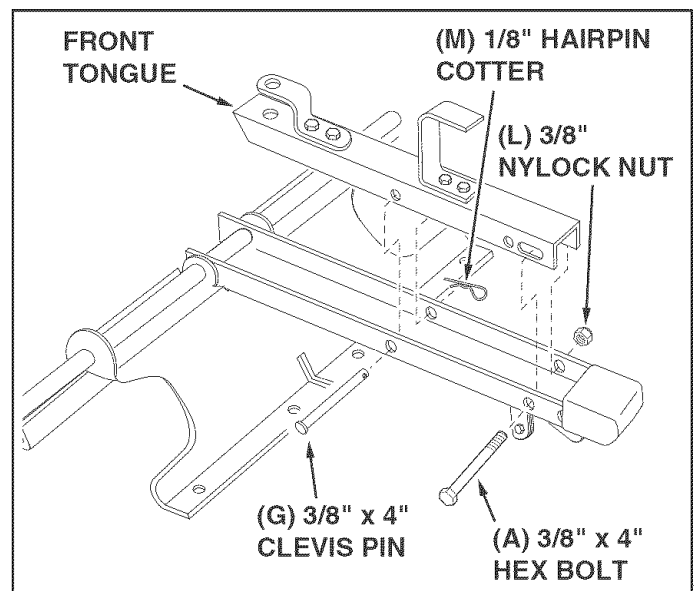

FIGURE 5
STEP 5: (SEE FIGURE 5)
- Place the front tongue inside the rear tongue as shown in figure 5. Fasten the tongues together using a 3/8" x 4" hex bolt (A) and a 3/8" nylock nut (L). **Tighten,** leaving the nut just loose enough that the tongues can pivot freely.
- Insert the 3/8" x 4" clevis pin (G) through the tongues and secure with a 1/8" hairpin cotter (M).
- To convert the cart for push operation, remove the 4" long clevis pin and hairpin cotter which secure the tongue in the towing position. (See drawing on page 8.) Pivot the front tongue into the storage position underneath the rear tongue and secure it using the same clevis pin and hairpin cotter. (See figure 5 on page 5.) Place the plastic cap over the exposed end of the tongue.